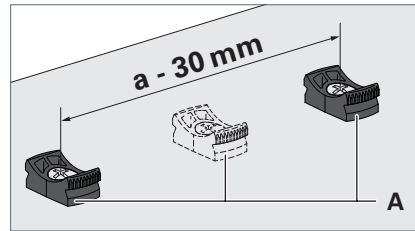

Fig. 1: Mounting the fastening elements
- ▶ Mount the fastening elements **A** to the mounting surface in parallel to each other using suitable screws, see Fig. 1.